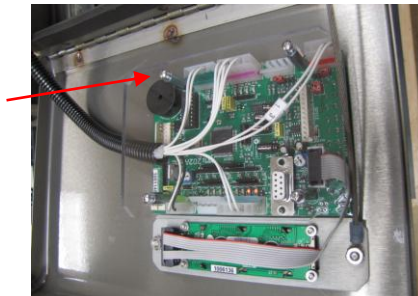
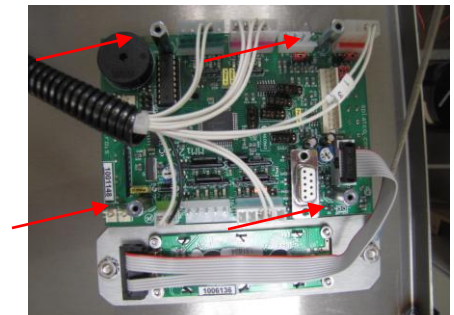
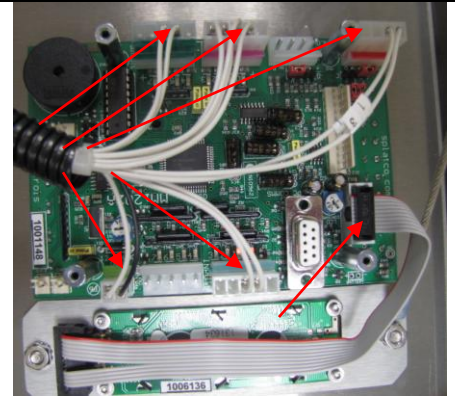
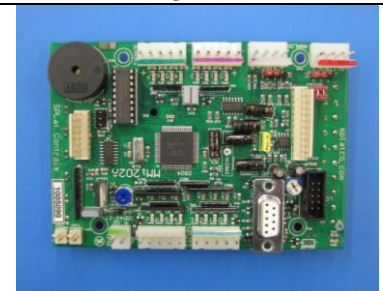

Figure 5
Figure 6
Figure 7
Figure 8
3. Locate Programmable Controller MMi202A inside front panel of machine. Remove acrylic cover from Programmable Controller using small Phillips screwdriver as shown in Figure 5. Remove hex standoffs with 1/4" socket – reference Figure 6.
4. Disconnect wiring coming from the 24 volt din rail to the Controller that are color coded dark green, pink, red, light green and blue. Also disconnect wiring from LCD screen. Refer to Figure 7.
5. Obtain X88 Programmable Controller MMi202A from ANKOM (programmed for use with glass fat collection insert), as shown in Figure 8. Replace existing Programmable Controller with new one. Re-attach wiring as shown above in Figure 7. Reinstall hex stand-offs shown in Figure 6 and acrylic panel shown in Figure 5. Close front panel being careful not to pinch wiring .